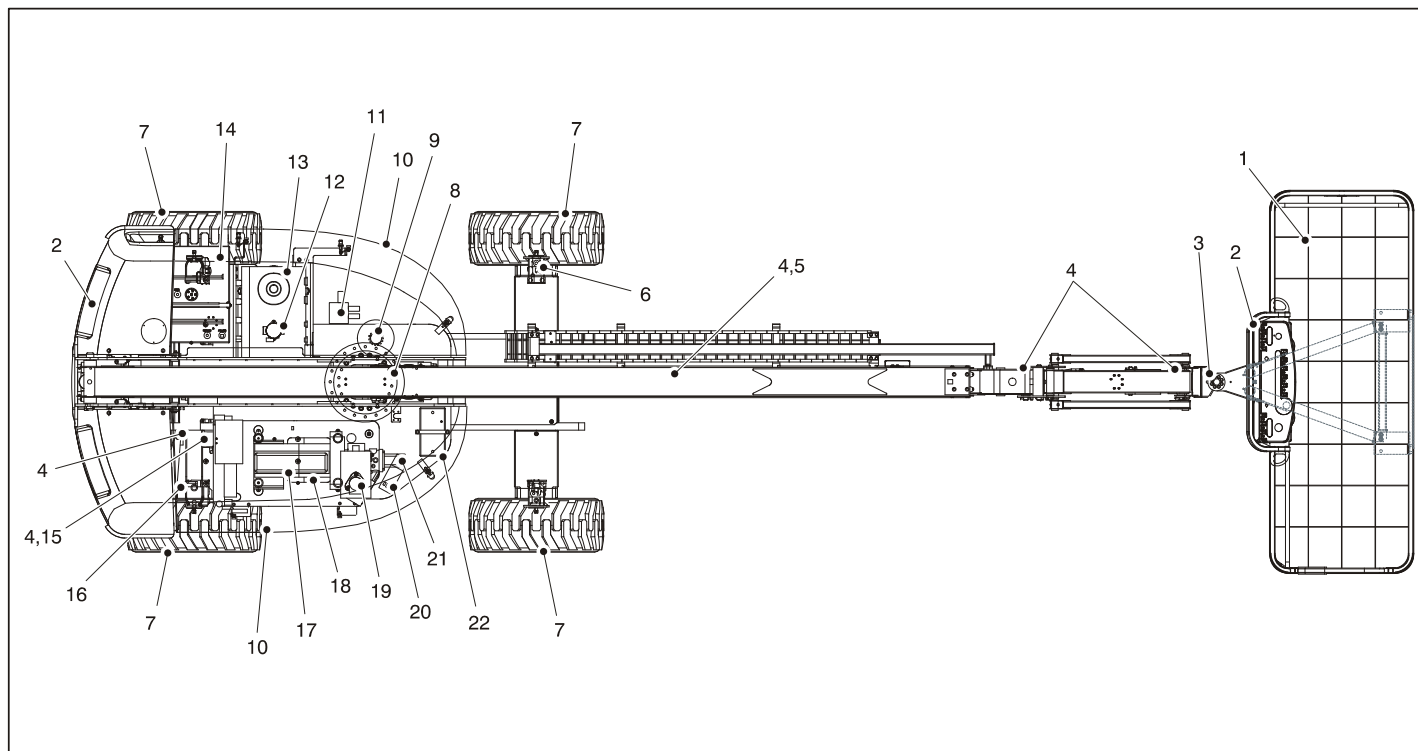

Figure 2-2. Daily Walk-Around Inspection - Sheet 1 of 3
4. **“Walk-Around” Inspection** – Refer to Figure 2-2. thru Figure 2-4.